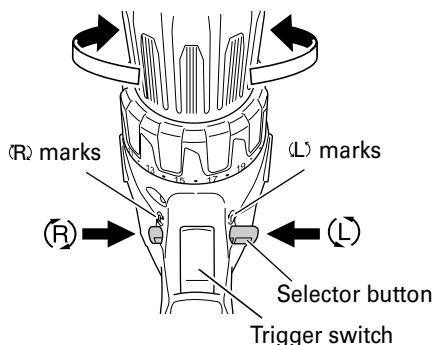

Fig. 6
The bit rotates clockwise (viewed from the rear side) by pushing the R-side of the selector button. The L-side of the selector button is pushed to turn the bit counterclockwise (See Fig. 6). (The (L) and (R) marks are provided on the body.)